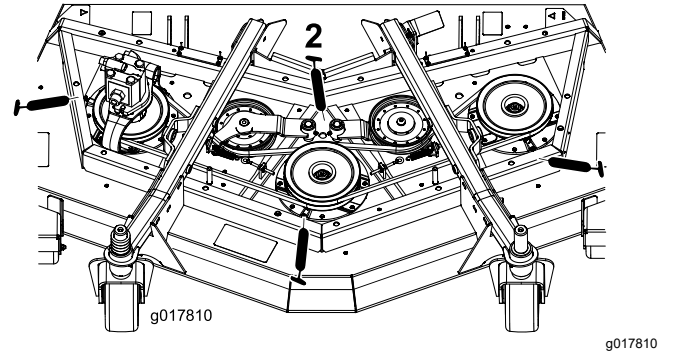

Figure 81
- 3 spindle-shaft bearings—located under the pulley (Figure 81)
- 2 idler-arm-pivot bushings (Figure 81)